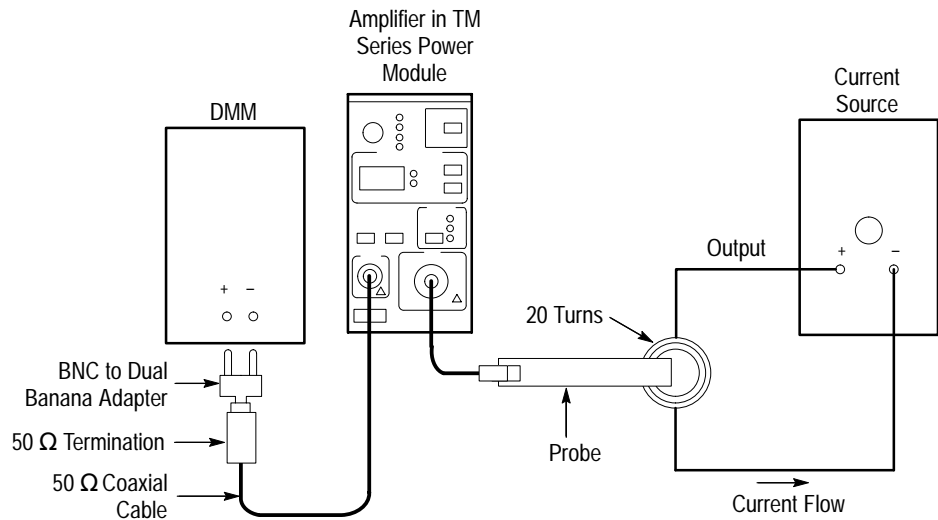

Figure 5-6: DC Gain Accuracy Test Setup for A6302/A6302XL
3. Clamp the current probe around the 20 turn current loop, as shown in Figure 5-6 on page 5-22. Verify that the arrow-shaped indicator on the probe points away from the current source.